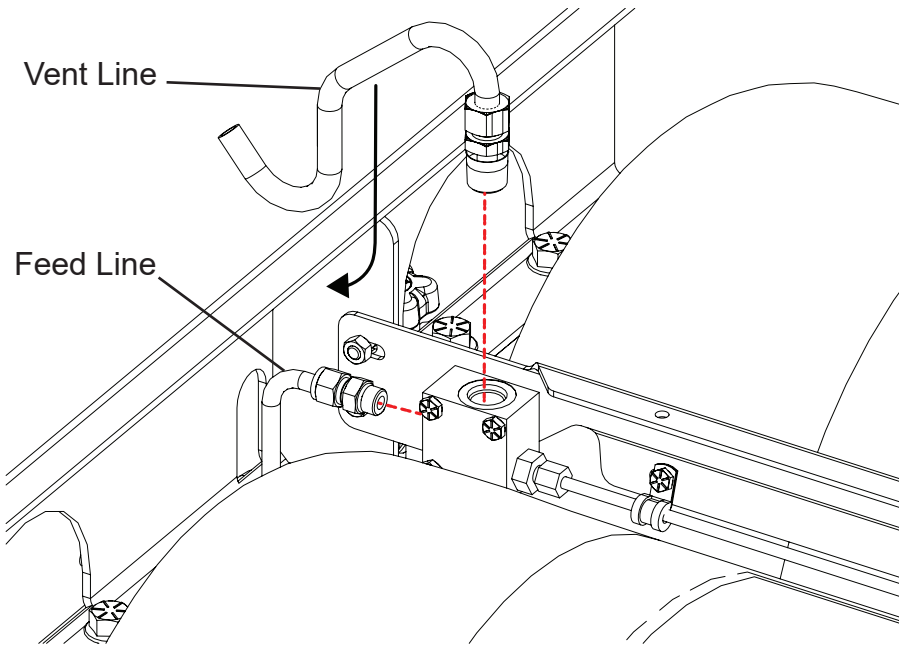
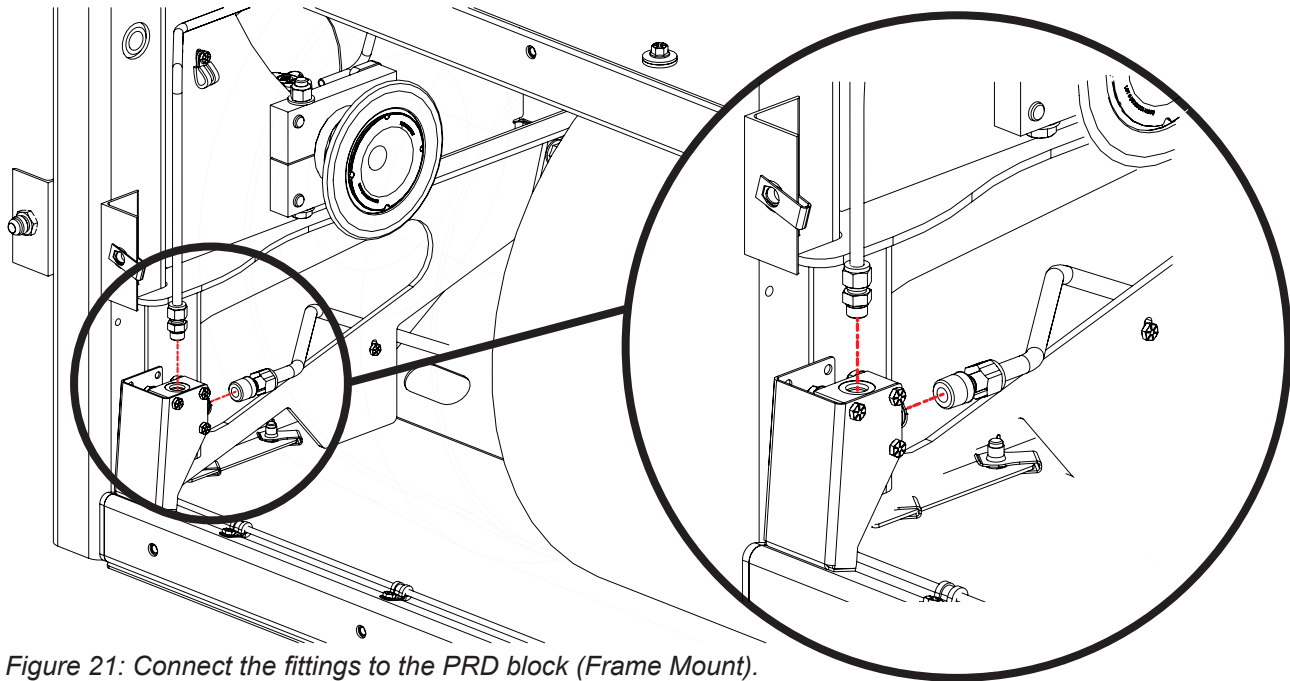

Figure 20: Connect the fittings to the PRD. Make sure to orient the vent line under the CNG system mount frame as shown.
Figure 21: Connect the fittings to the PRD block (Frame Mount).
22. Connect the feed and vent line fittings to the PRD (Figure 20 or Figure 21 depending on system configuration).